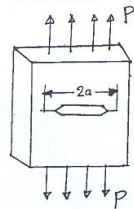

Fig.Q3(c)
- c. A middle tensile (MT) panel shown in Fig.Q3(c) is 1m wide and 25 mm thick with 200 mm crack size must carry a load of 700 MN. For the material $K_{IC} = 200 \text{ MPa}\sqrt{\text{m}}$, $\sigma_{YS} = 350 \text{ MPa}$ and $\sigma_{TS} = 450 \text{ MPa}$, use the strip yield criteria EAD to determine the whether or not the crack will fast. (07 Marks)